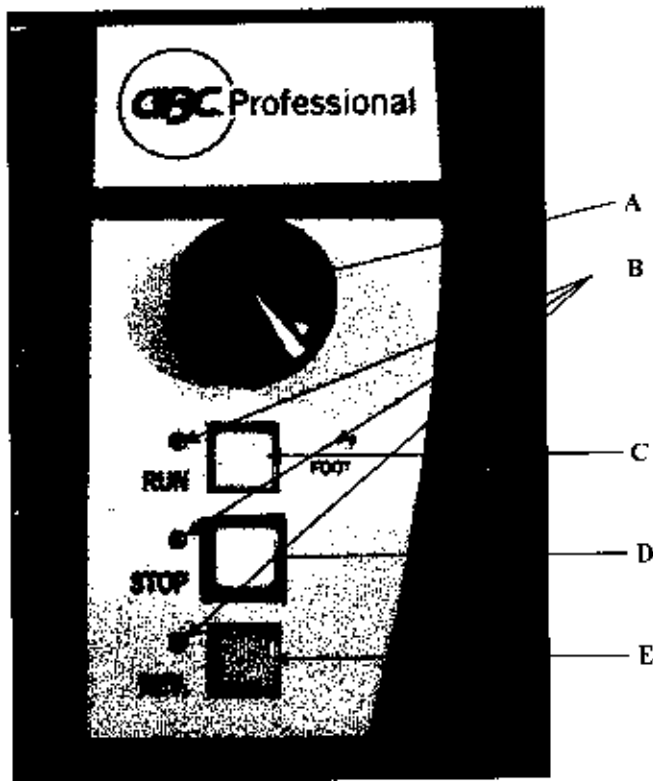

Fig. 5-10. Control Panel
**A. Speed Adjustment** (Figure 5-10)